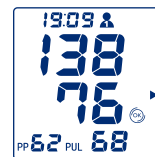

Figure 5
- The determined systole, diastole and pulse values, as well as the pulse pressure (PP) are shown in the display (Figure 5).